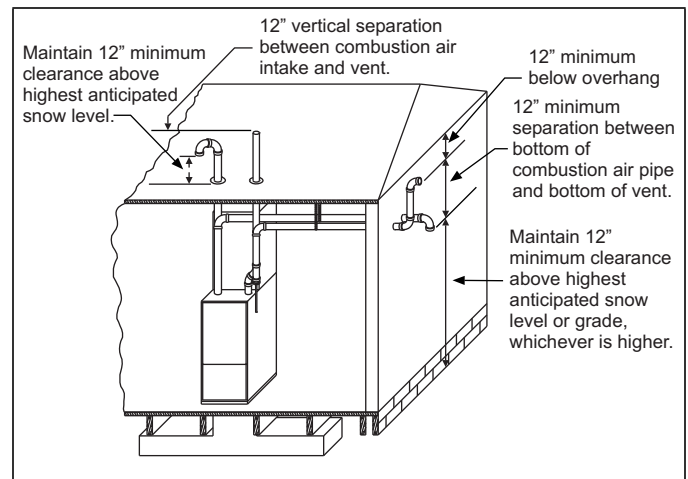
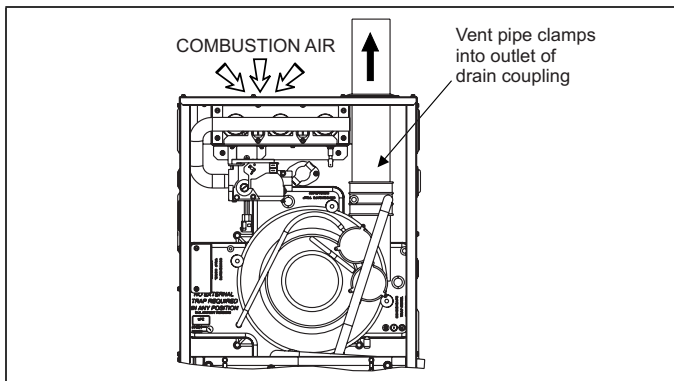

**FIGURE 27:** Termination Configuration - 1 Pipe
FIGURE 34: Combustion Airflow Path Through The Furnace Casing
The combustion air side of the single pipe configuration shown in Figure 34 is referred to in these instructions as ambient combustion air supply. Follow the instructions for ambient combustion air installations, paying particular attention to the section on air source from inside the building. The vent for a single pipe system must be installed as specified in the venting section of these instructions with both vents terminating as shown in Figure 27. Each furnace must have a separate vent pipe. Under NO circumstances can the two vent pipes be tied together.
2. **AMBIENT COMBUSTION AIR:** Combustion air is supplied from the area surrounding the furnace through openings in the furnace casing. The combustion air and the vent pipes are not terminated in the same atmospheric zone. Refer to Figure 27 for vent terminations. Refer to "Ambient Combustion Air Supply" for proper installation. Refer to Figures 33 and 34.